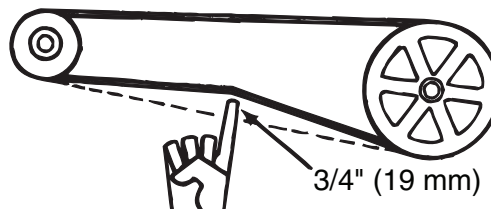

Figure 28. Checking Belt Tension
- Proper belt tension is important to the long life of the belt and motor. A loose belt will cause wear and slippage. Too much tension will cause excessive motor and blower bearing wear. Check belt tension as shown in Figure 28.
- If the belt cannot be depressed 3/4 inches (19 mm), as shown in Figure 28, adjust the belt tension as follows:
- f. Replace the belt and adjust the belt tension. Adjust tension by turning the adjusting screw on the motor base until the belt can be depressed 3/4 inch (see **Figure 28**). Re-tighten the lock nut on the adjusting screw. Ensure that the belts are aligned in the pulley grooves properly and are not angled from pulley to pulley.